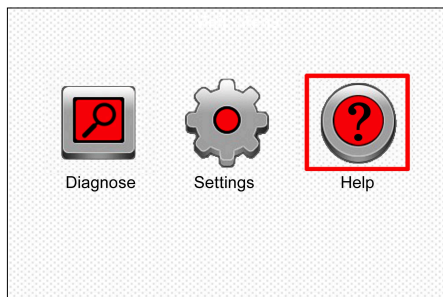

Figure 4
- When the tool has powered up, place cursor on the Help icon and press the OK button. (Figure 4)